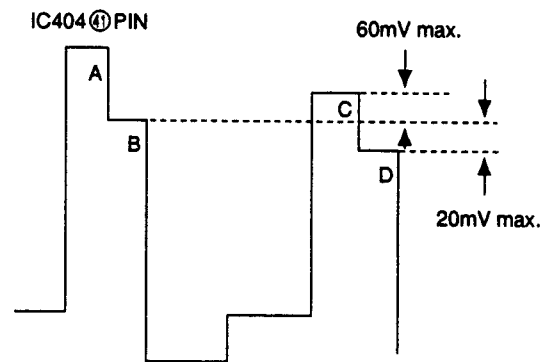

Fig. 5-24
- 4) Adjust **R-Y LEVEL NTSC 443** in the same way as 10-6-4). (Fig.5-24)